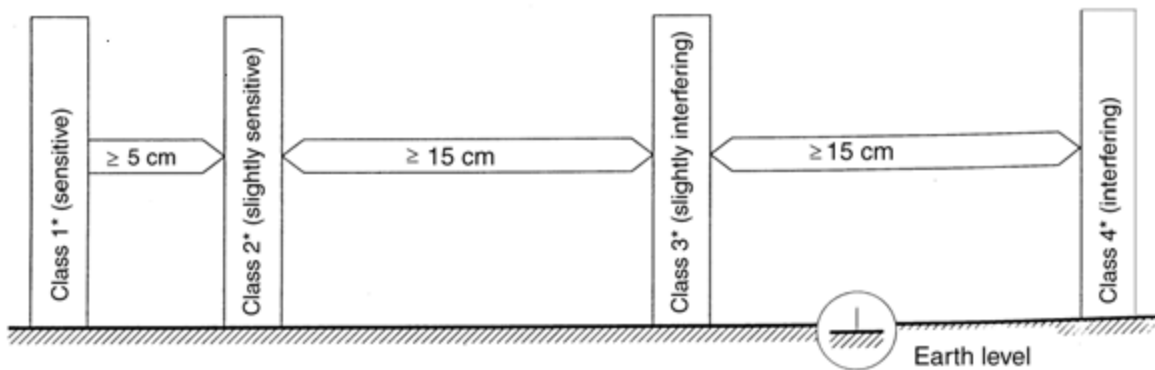

Figure 1: The distance between cables carrying signals of different classes must be maximised.
- Alternator main cables, signal cables, power supply cables and serial-communication cables must be laid separately. The distance between cables carrying signal of different classes must be maximised, see fig 1.